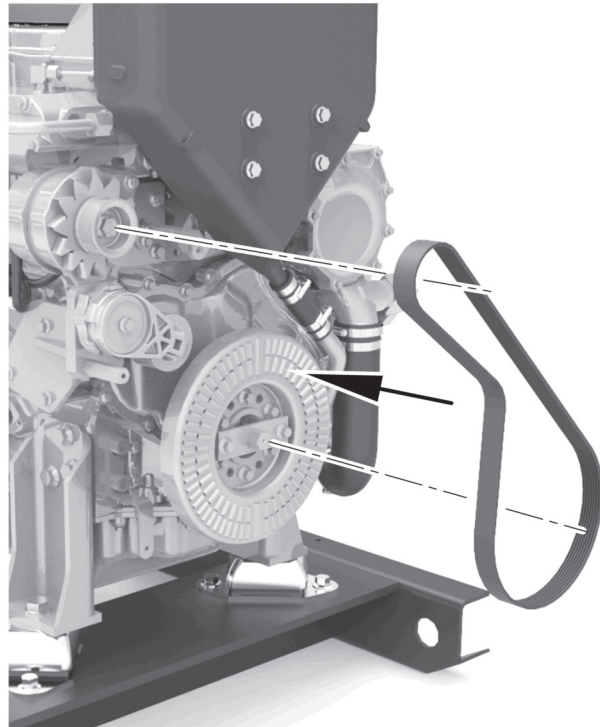

Figure 16
3. Install the new belt correctly, as shown in figure 16. Be sure that the belt is fully seated on the pulleys. The correct tension will automatically be applied when the ratchet is removed.